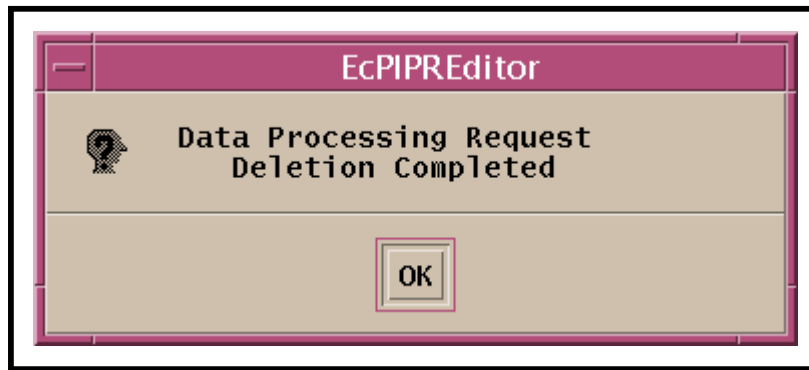

Figure 33. DPR Deletion Completed Dialogue Box
- A deletion dialogue box (similar to Figure 33) is displayed.